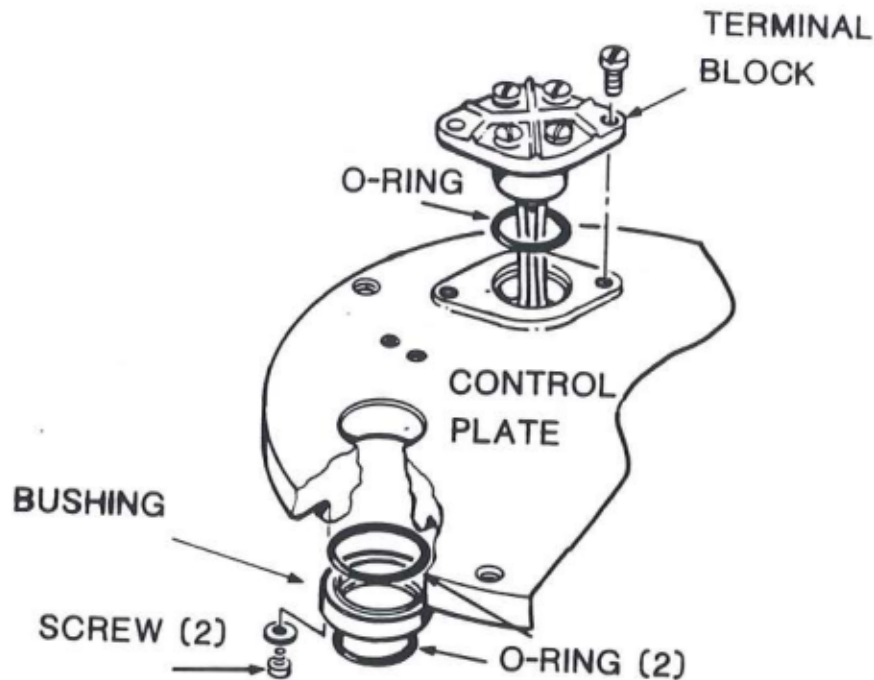

Figure 4-13. Upper Shaft Seals
- 1). Invert the control plate (606).
- 2). Remove the two slotted head screws and two brass washers that hold the shaft seal bushing to the control plate (see Figure 4-13).